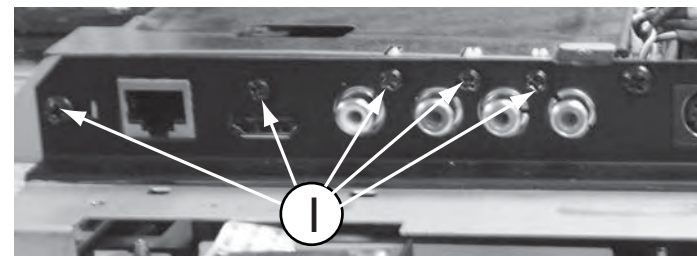

Figure 10
- 2) Loosen 5 screws "I" at the main pcb bracket as shown in figure 10.